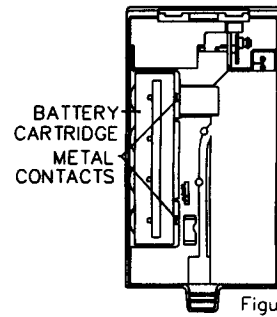

Figure 3
4. Rotate battery cartridge 180° in the Dispenser, placing the metal contacts facing the center of the dispenser. (Figure 3)